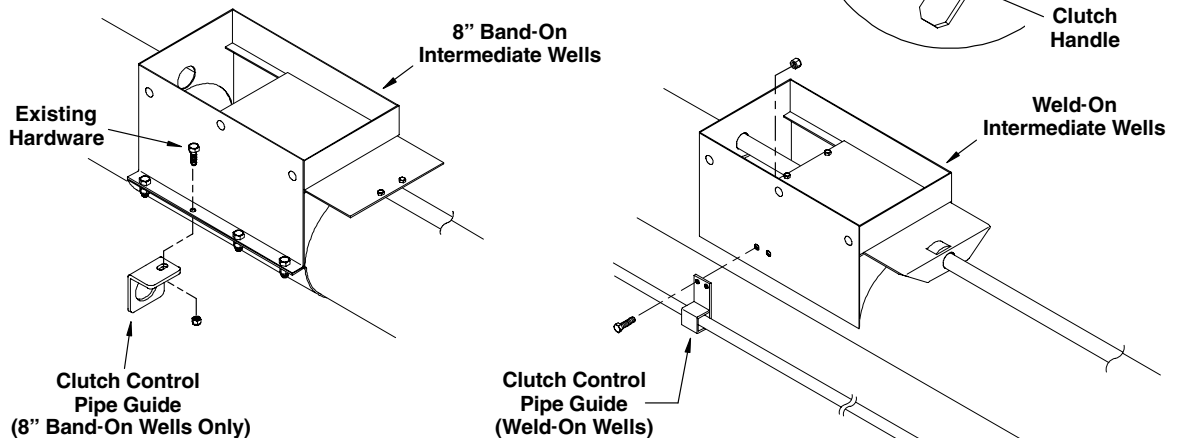

FIG. 18
9. Install control pipe for clutch to center well (See Fig. 18).
- A. For intermediate bin wells that are welded to the unloading housing, bolt the clutch control pipe brackets to the well using two 5/16" x 3/4" bolts and nylon locknuts. For band-on intermediate wells, the 6" wells already have a clutch guide support ring welded to the bottom half-band. The 8" band-on wells use a clutch guide bracket that is bolted onto the bottom half-band. Use the existing hardware from the half-band to attach the bracket to the bottom side of the flange (the bracket can be attached to any one of the existing bolts, See Fig. 18 below).
- E. Check operation of clutch by pulling the handle to engage the clutch and then pushing the handle to disengage. Control pipe should slide freely. Lock control pipe into the engaged or disengaged position by positioning the handle on the appropriate side of the positioning lock tab (See Fig. 18).